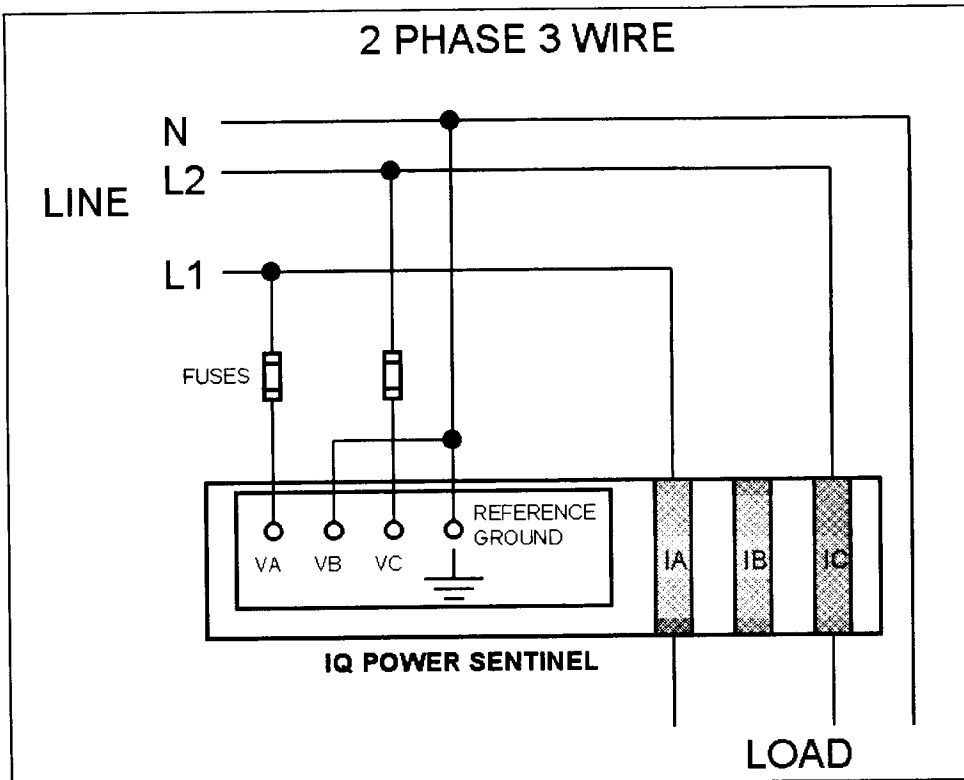

Fig. 7 2-Phase, 3-Wire Wiring Configuration
- D) Two-Phase Star, Three-Wire, Earthed Neutral (see **Figure 7**).